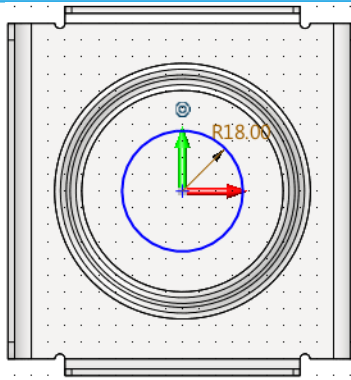

Figure 74 Sketch on Top Face of Plain Dimple
STEP 03 Create a sketch in the dimple top face as shown in Figure 74.